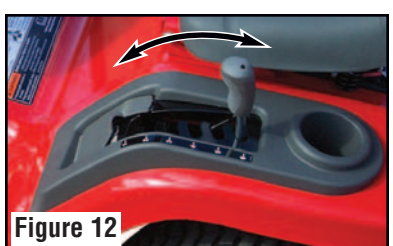

Figure 12
- Move the deck lift lever (Figure 12) to the highest cutting height.
- Move the deck lift lever (Figure 12) to the desired cutting height.